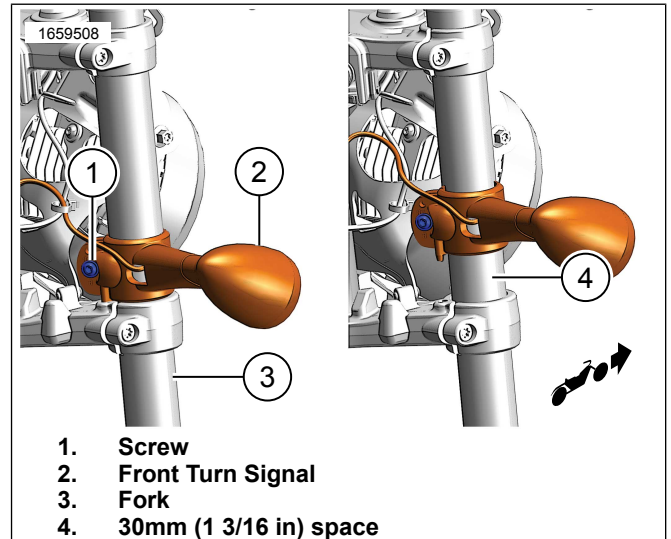

Figure 4. Relocate Turn Signal Brackets
1. See Figure 4. Loosen screw (1) on front turn signal (2).
2. Move front turn signal (2) approximately 30mm (1 3/16 in) (4) up fork tube (3).
3. Tighten screw (1).